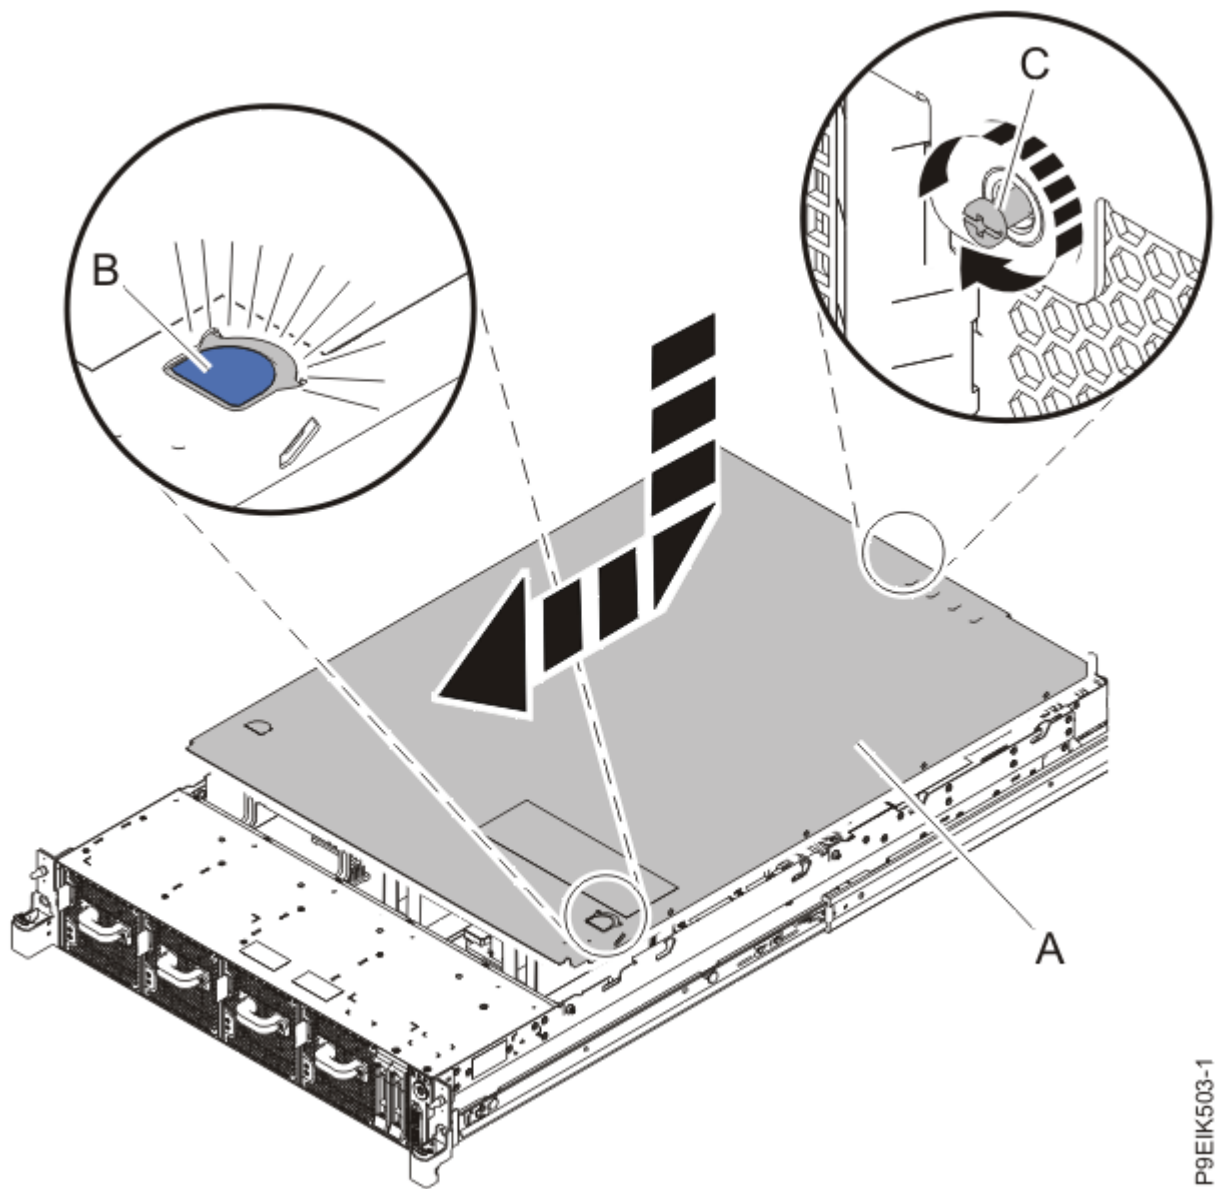

Figure 181. Installing the cover
1. Place the cover **(A)** on the system unit such that the alignment pins on the cover are aligned to the slots on the chassis. Slide the cover to the front of the system until the blue release latch **(B)** locks in to place as shown in Figure 181 on page 208.
2. Fasten the cover screw (C) at the rear of the cover.